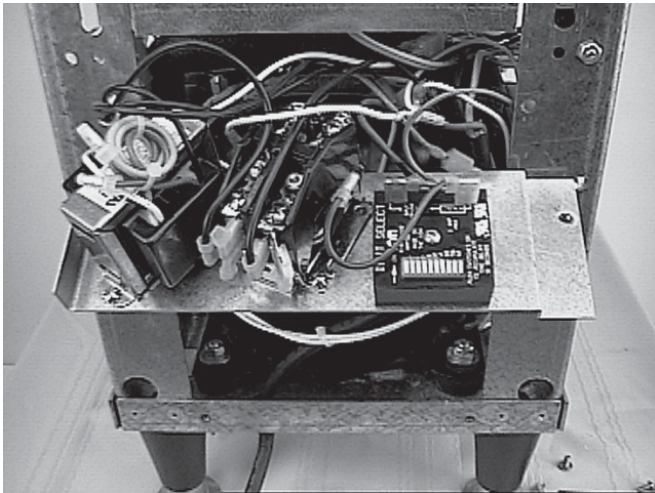

Figure 32. Rear Electrical Panel
3. Remove the two retaining screws from the electrical panel and remove the panel. Figure 32.